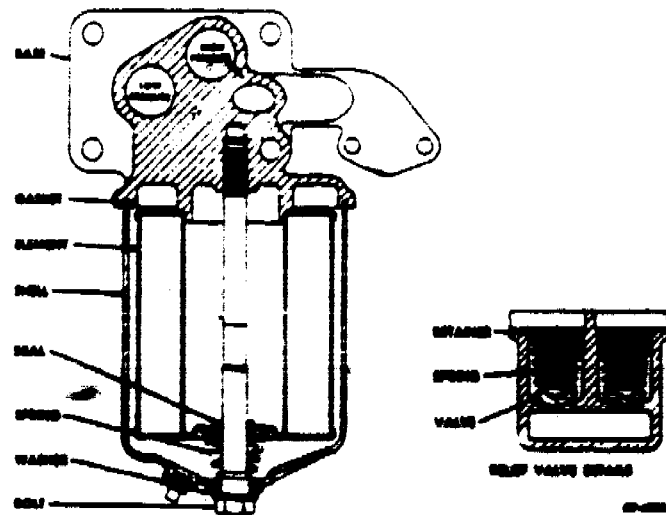

Fig. 84 - Sectional View of Oil Filter.
4. Position new element on filter base with seal in end of element away from base, as shown in Fig. 84.